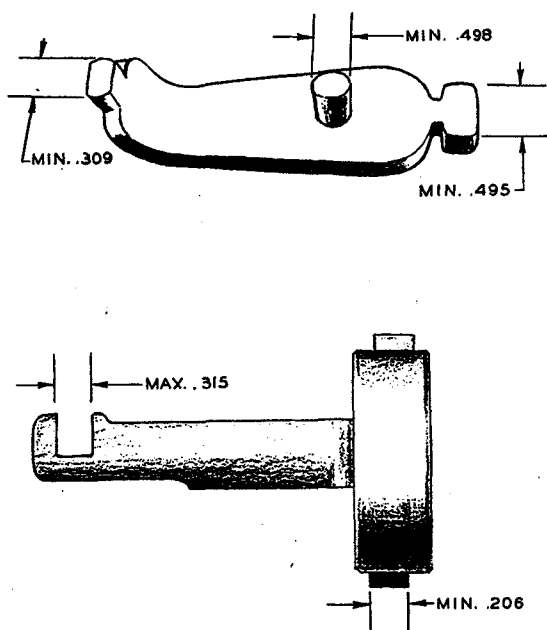

Figure 24
(3) Inspect the control arm for excessive wear and replace if required. (See figure 24.)
(4) Inspect the actuator for excessive wear on the lugs and in the slots. Replace if required.
(5) Inspect the pitch-change mechanism gear for excessively worn or bent teeth.